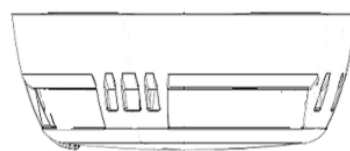

Figure 3
4. Continue to rotate a few degrees until the ONEDETECTOR_AP has fully engaged in the ONEBASE_AP. (Fig3)